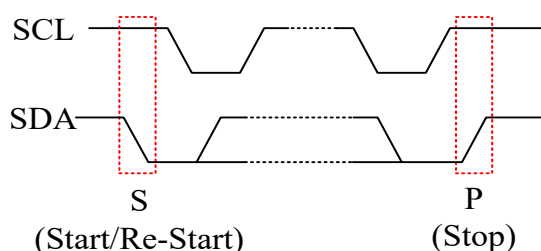

Figure 3-20 Start & Stop Timing
- Start/Re-Start: SDA change from HIGH to LOW while SCL is HIGH, See Figure 3-20;
- Stop: SDA change from LOW to HIGH while SCL is HIGH, see Figure 3-20;